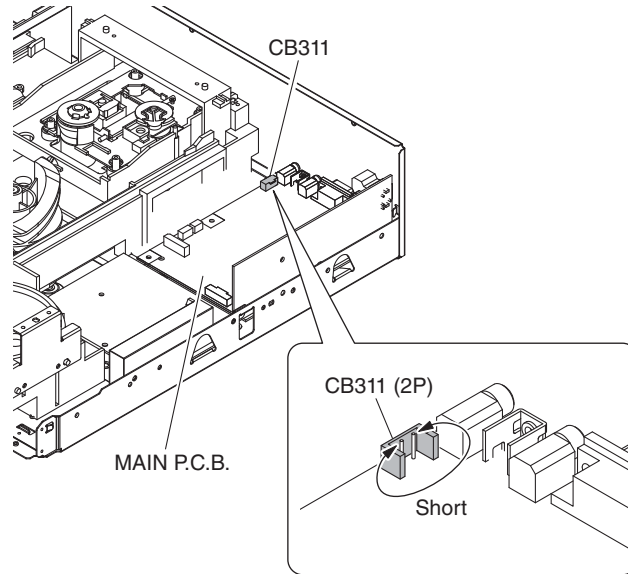

Fig. 2
3. Short circuit between both terminals of CB311 of the MAIN P.C.B.. (Fig. 2)